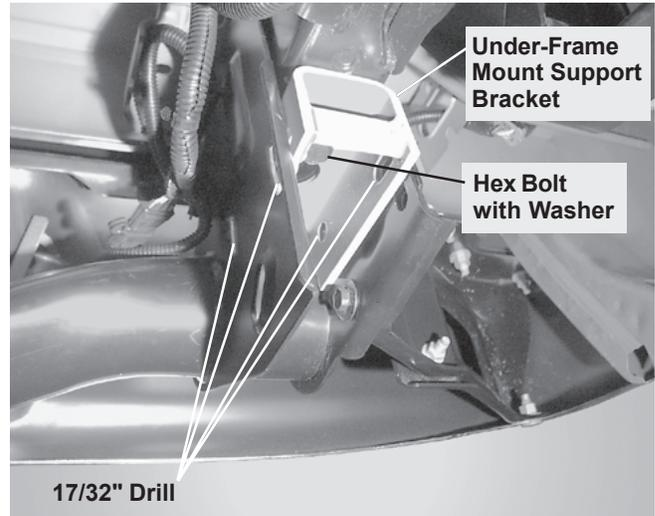

Figure 4
2. Position under-frame mount support bracket underneath frame rail with slots at front and align holes. Secure with OEM-supplied metric hex bolt with flat washer. Enlarge bumper bracket holes and slots to 17/32". (See Figure 4.)